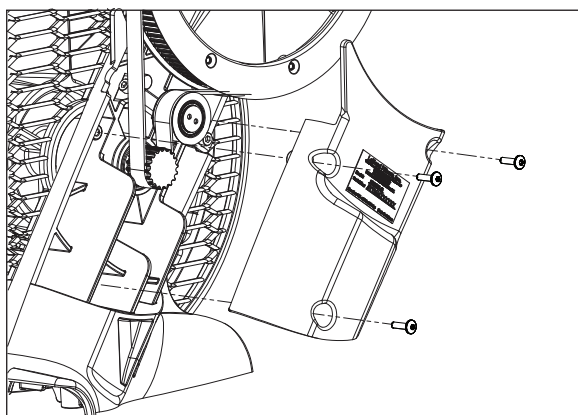

FIGURE 5.1
1. Remove the body side cover. (Figure 5.1)
6. Reinstall the body side cover. (Figure 5.1)